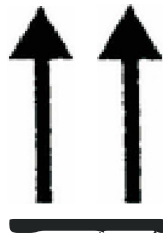

FIG 9-1
2. The shipment should be vertical upward, as shown in the figure 9-1.